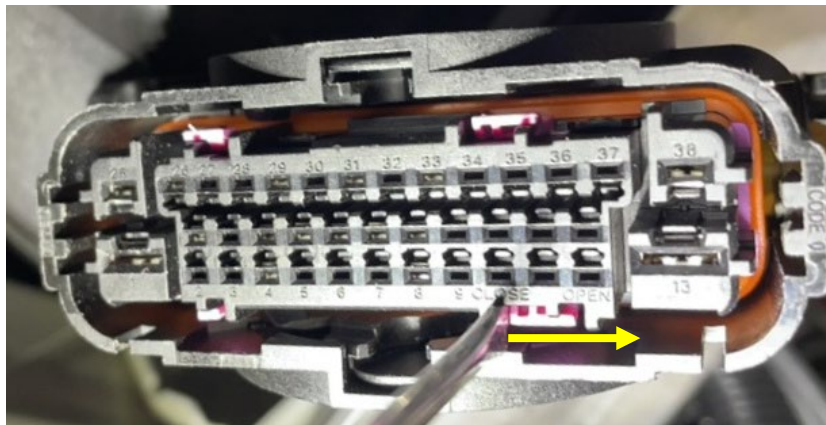

Figure 16
16. Use a pick to slide the large locking tab of connector X151 from “CLOSE” to “OPEN” (Figure 16).